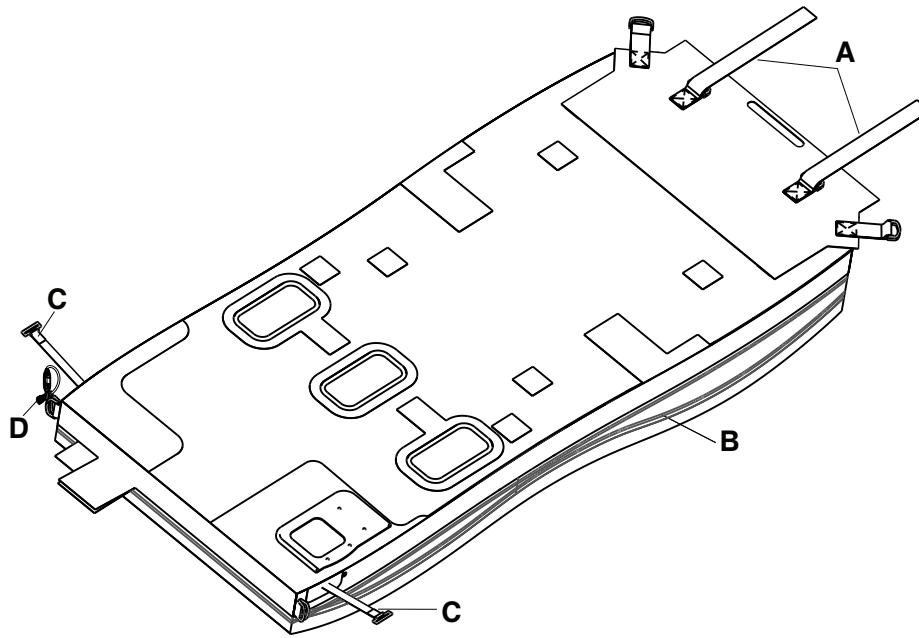

Figure 2 – Bottom support surface cover
5. Loosen and remove the retainer straps (A) that secure the support surface to the Fowler (Figure 2).